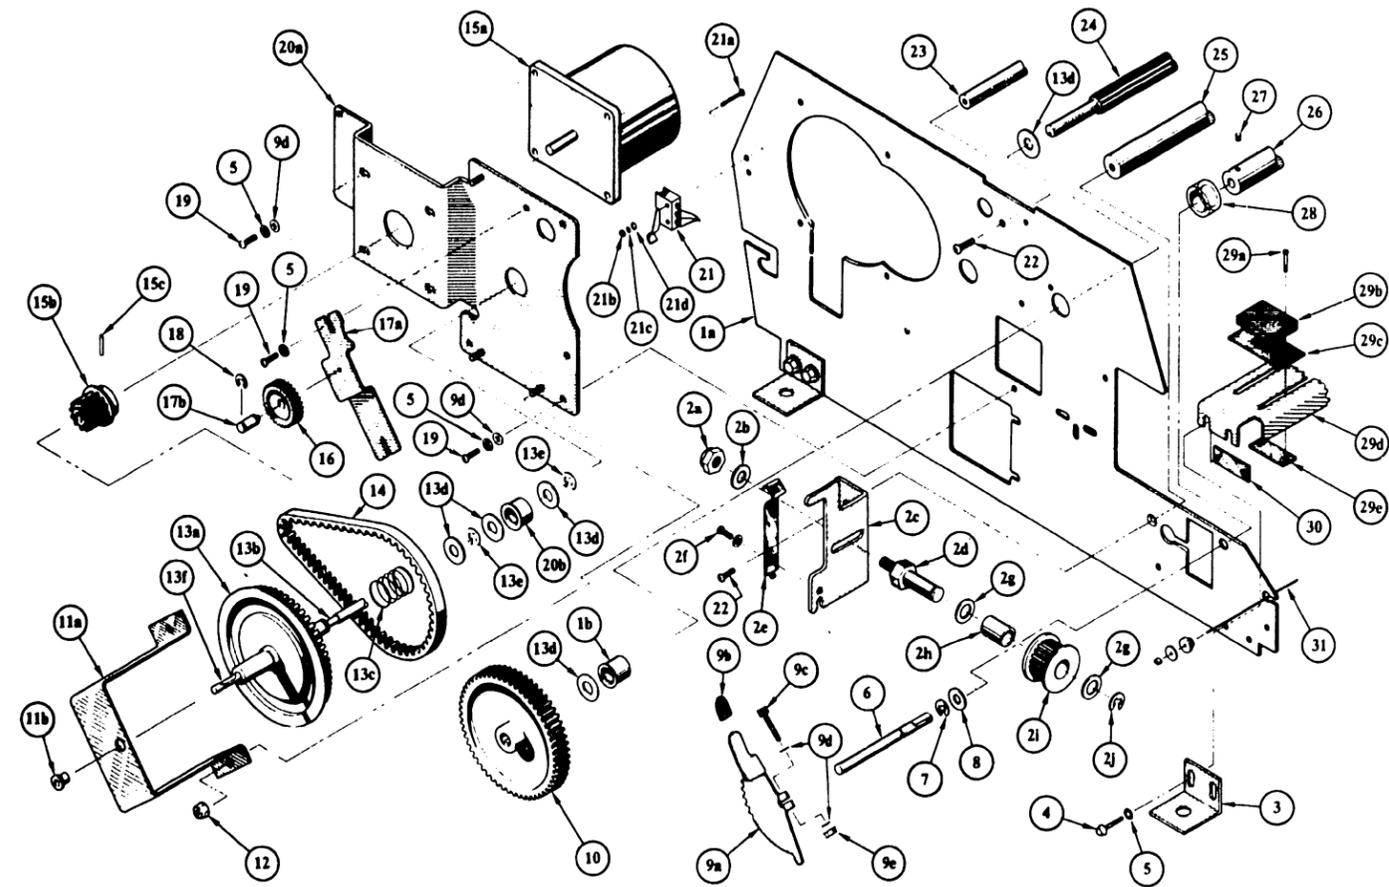

FIGURE 8-4 LEFT HAND SIDE FRAME ASSEMBLY
8.3.4 LEFT HAND SIDE FRAME ASSEMBLY PARTS LIST (SEE FIGURE 8-4)